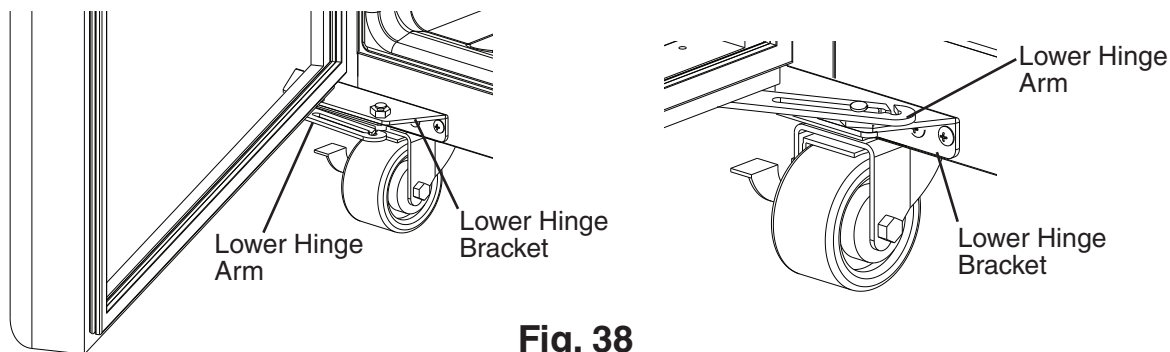

Fig. 38
- 18) Open the door and connect the lower hinge arm to the lower hinge bracket. See Fig. 38.